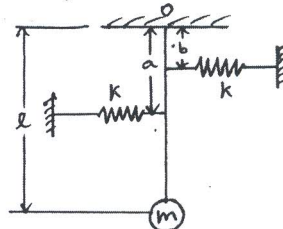

Fig Q4(b)
b. Determine the natural frequency of the system shown in Fig Q4(b), using Newton's method.